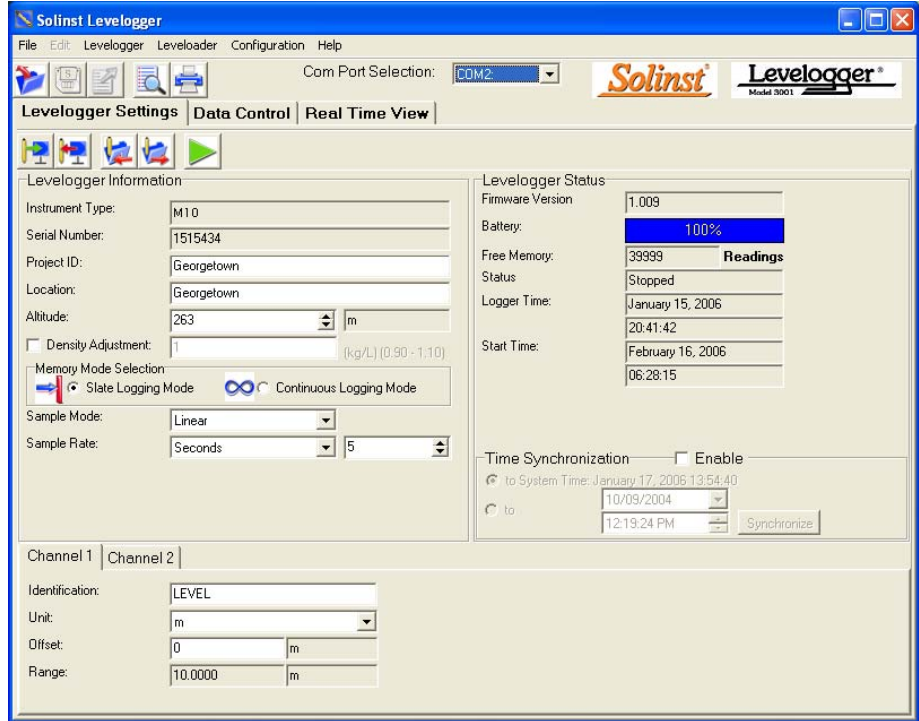

Figure 5-1 Levelogger Settings Window
- Logarithmic Sampling** (available only on LT Leveloggers and previous Barologgers) offers a choice of three different sampling test periods with several levels of reading collection rates within each test period, based on a logarithmic spread of data collection intervals. The three Logarithmic sampling ranges are Log 25h, Log 6.5 day and Log 297 day sampling periods. Each log test starts with its most rapid sampling interval and uses a Step function approach in time to the longest logging interval at the end of the test. Figure 5.1 outlines how each Logarithmic sampling test period collects data over its entire sampling duration. In Logarithmic based sampling mode, the mini LT Levelogger (4.9 inches long) has a total memory capacity of 2 x 24,000 readings. The original LT Levelogger (8.5 inches long) will record 2 x 19000 readings in Log mode.